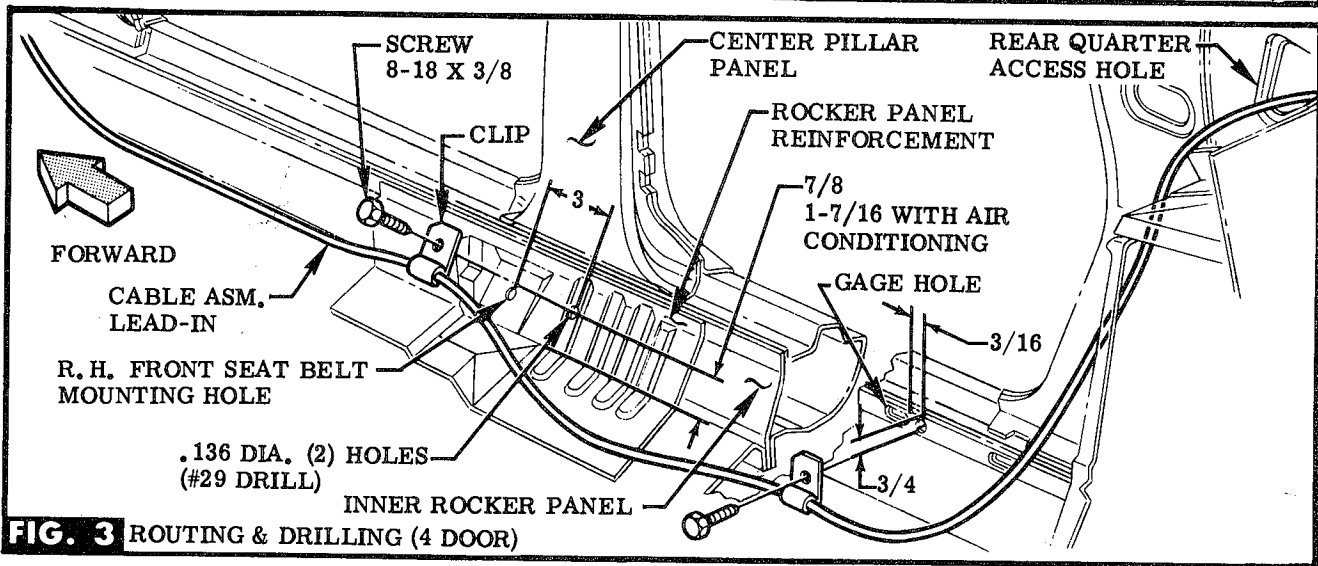

FIG. 3 ROUTING & DRILLING (4 DOOR)
STEP 4 (4 DOOR) ROUTE CABLE ASM. FROM HOLE IN UPPER BAFFLE PLATE THRU REAR QUARTER ACCESS HOLE & DOWN TO FLOOR PAN AREA. CONTINUE ROUTING CABLE ALONG INNER ROCKER PANEL TO FRONT OF VEHICLE. LOCATE, CENTERPUNCH & DRILL NECESSARY HOLES (2) FOR CLIP ATTACHMENT. POSITION CLIPS OVER CABLE ASM. & ATTACH TO INNER ROCKER PANEL & ROCKER PANEL REINFORCEMENT WITH SCREWS. SEE FIG. 3.